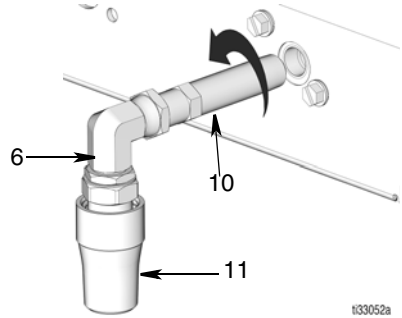

FIG. 21
6. Unscrew nipple adapter assembly (10, 6 and 11) from manifold (1).
NOTE: The nipple adapter (10), elbow (6) and swivel nozzle (11) do not have to be disassembled. These pieces can be removed from the manifold as a single assembly (FIG. 21).